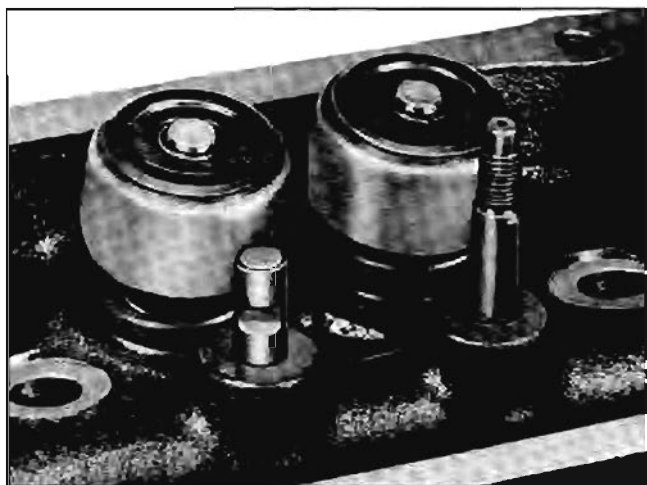

Fig. 6-27 Slots Filed in Rocker Arm Stud
2. With rocker arm removed, file two slots $\frac{3}{32}$ " to $\frac{1}{8}$ " deep on opposite sides of rocker arm stud (Fig. 6-27). Top of slots should be $\frac{1}{4}$ " to $\frac{3}{8}$ " below thread travel.